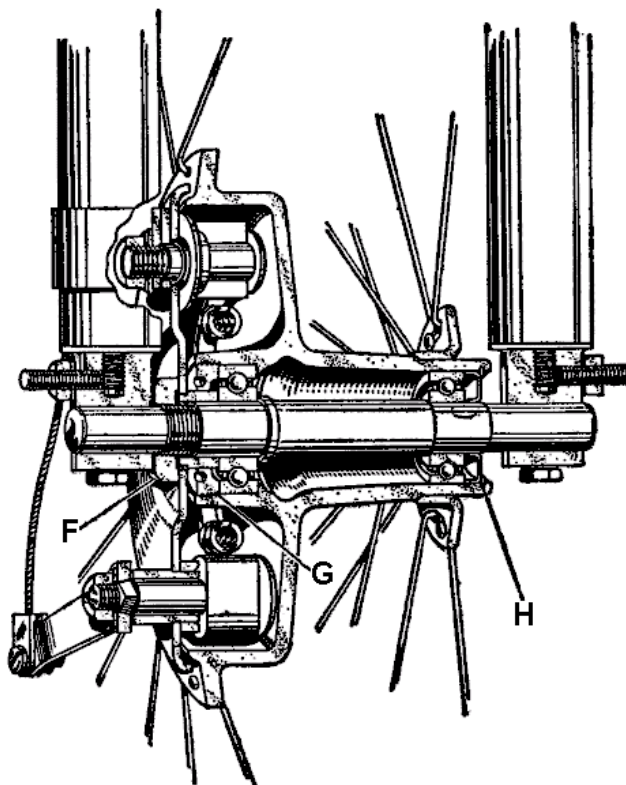

FIG. D30.
Unscrew the large nut (F) Fig. D30, on the spindle. This will be facilitated if the brake is applied by using a short length of tubing, such as a box spanner, over the brake arm.
Make sure that the cover plate nut (F) Fig. D30, is securely tightened, engage the torque arm bolt of the cover plate in the clip on the right-hand fork leg and replace the fork end clips. Before finally tightening the clip bolts pull the wheel towards the right-hand fork leg.